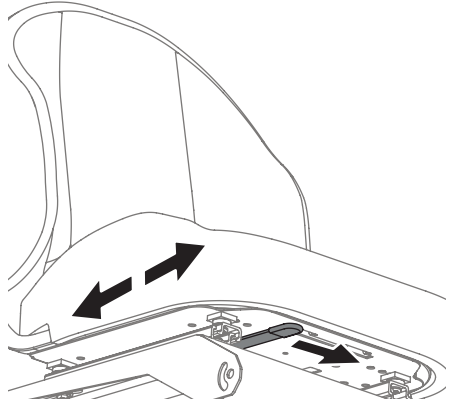

Fig. 17
3. Release the adjustment lever. Ensure seat is locked into position before operation (Fig. 17).